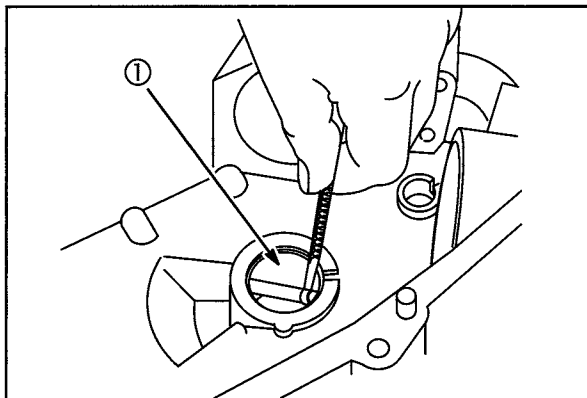

Fig. 9
1. Check magneto bearing for damage. Check for wear at several locations using #19380 plug gauge or appropriate measuring tools, Fig. 9. If plug gauge is not available see reject dimension in Section 13.